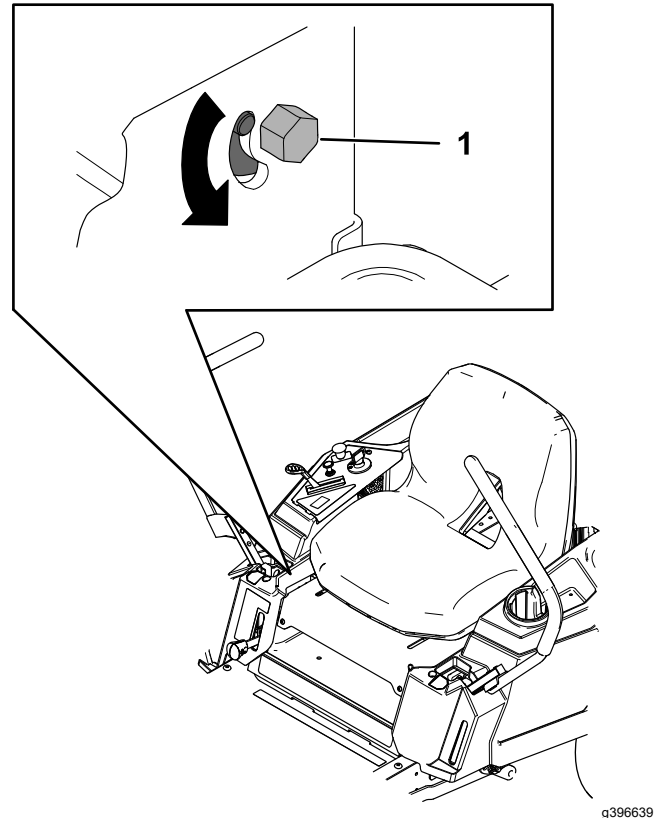

Figure 53
3. Locate the tracking-adjustment bolt near the motion-control lever on the particular side that needs adjusting (Figure 53).